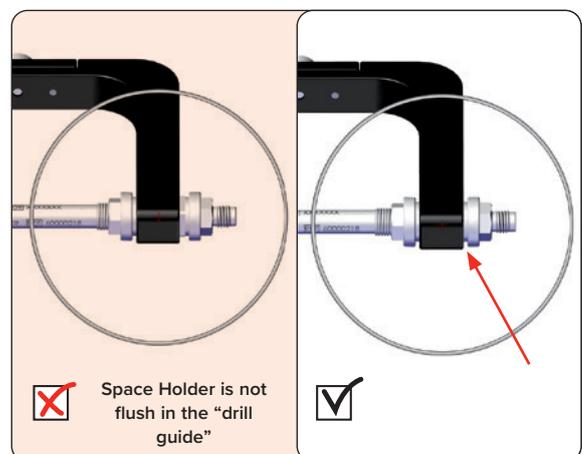

Fig. 36 Space holder wrongly inserted
2. The Space Holder is not completely flush with the Drill Guide Assembly (Fig. 36).